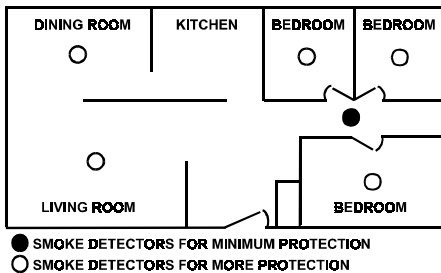
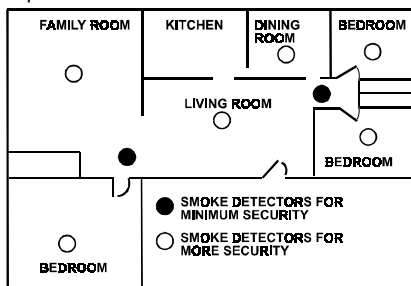

Figure 10. Locations for placing smoke detectors in a single residence with only one sleeping area
Figure 11. Locations for Placing Smoke Detectors in Single-Floor Residence with More than One Sleeping Area.
- Install a smoke detector in the hallway outside every separate bedroom area, as in Figure 10. Two detectors are required in homes with two bedroom areas, as in Figure 11.